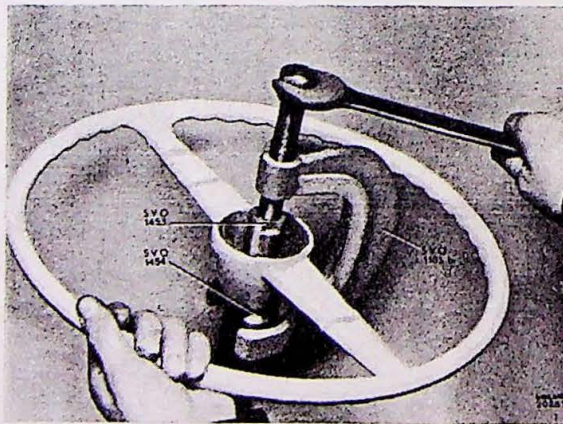

Fig. 20.
4. Draw off steering wheel. Use puller SVO 1185 B and spacer SVO 1453 and clamp SVO 1454. See fig. 20.